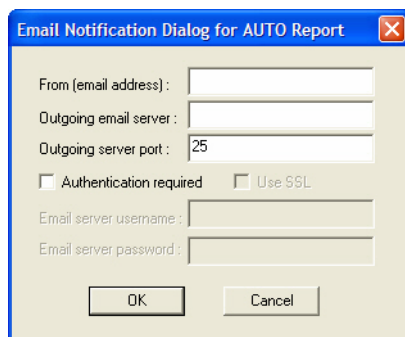

Figure 11-7: Mail Server Info
- 3) The Email Notification Configure for AUTO Report dialog box appears. See Figure 11-7.